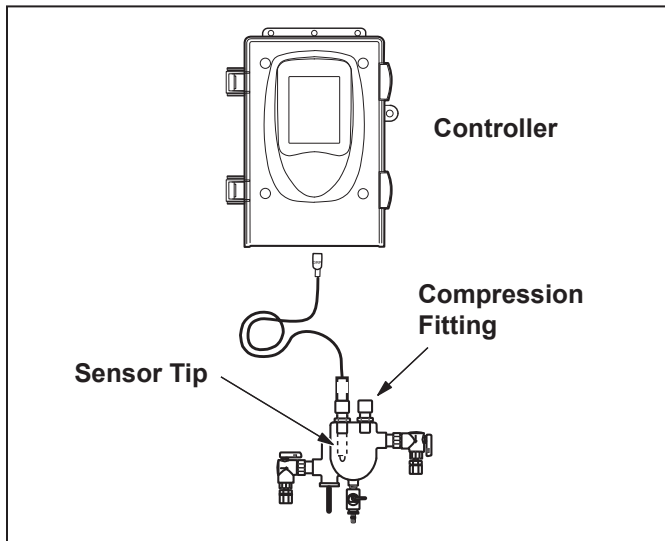

Figure 9. Sensor Installation
5. Insert the sensor into the compression fitting on the flow cell assembly. The sensor tips should extend below the water line in the flow cell. See Figure 9.